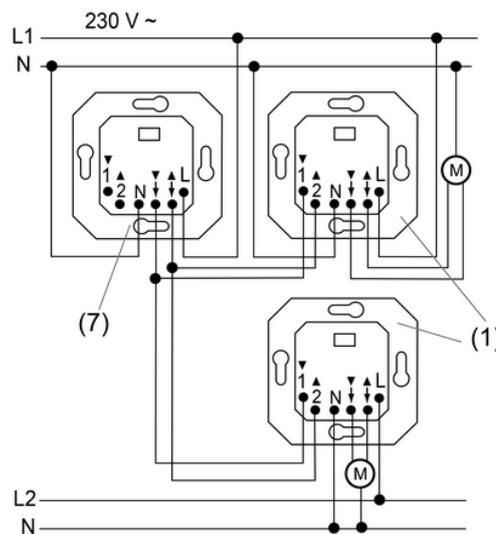

Figure 3: Connection example of group control
The venetian blind control can be integrated into a group control (1) (Figure 3), either for local control or as a master unit (7).
- Connect the venetian blind controls according to the connection example (Figure 3). The Venetian blind inserts can also be connected to different external conductors.